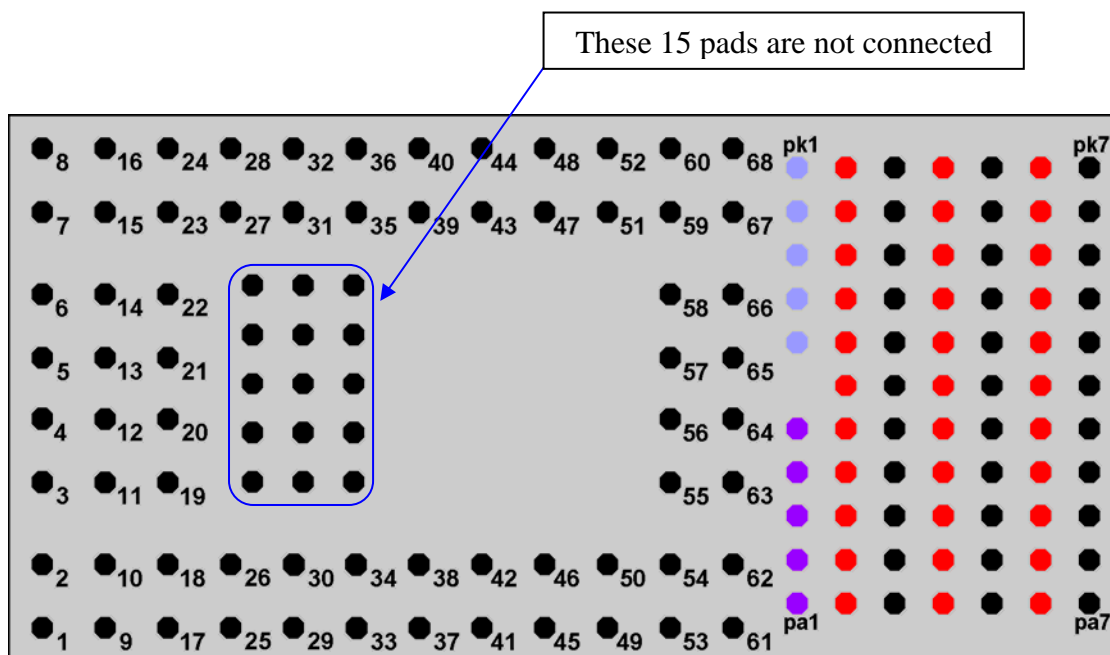

Figure 4 –SPi pad numbering.
- The 15 unlabeled pads towards the left of centre (Figure 4) of the device are not connected.